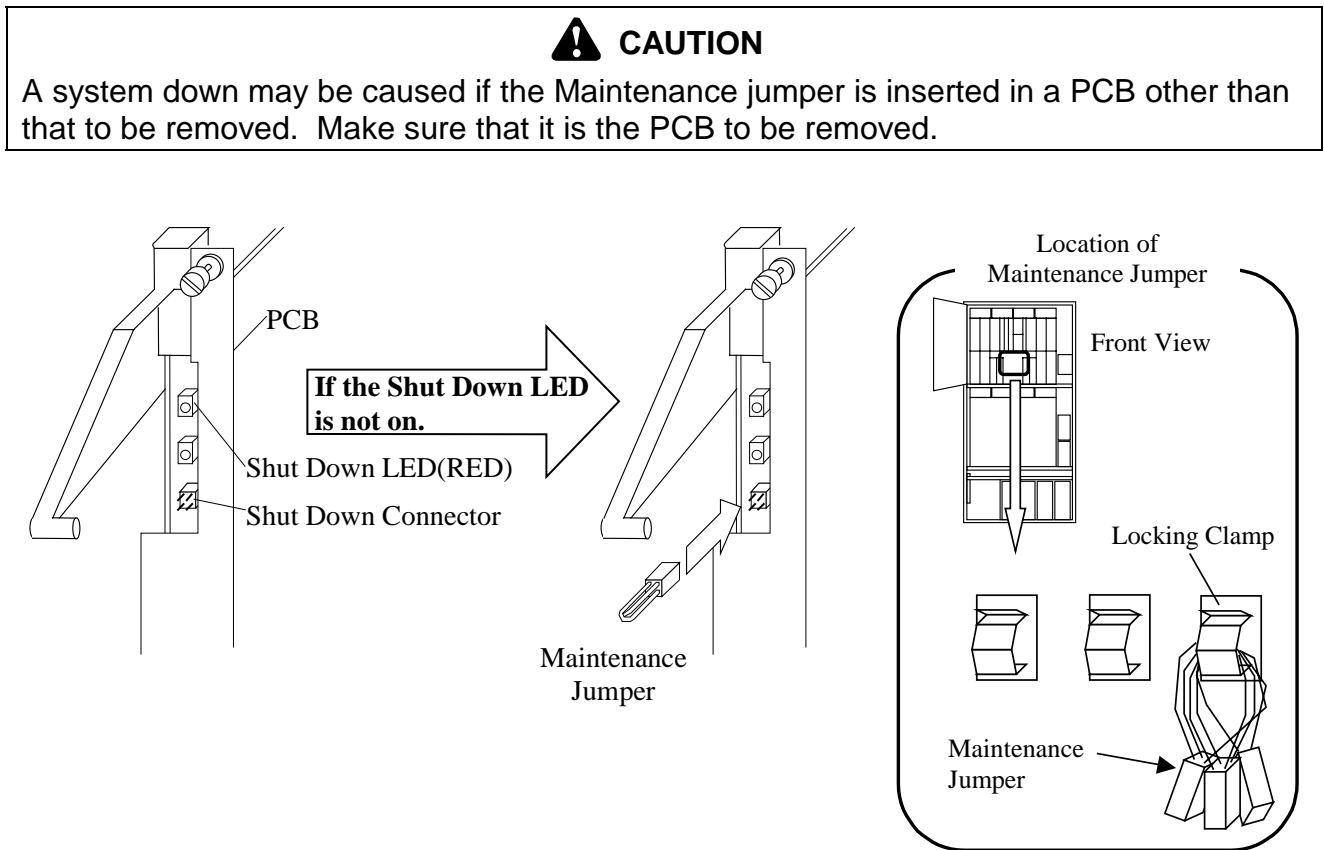

Fig. 4.2.2-4 Location of the Shut Down LED
- a. While referring to Fig. 4.2.2-4 and Table 4.2.2-5, check the Shut Down LED on the Cache Memory PCB. Connect the Maintenance Jumper to the Shut Down Connector if the Shut Down LED is not on.